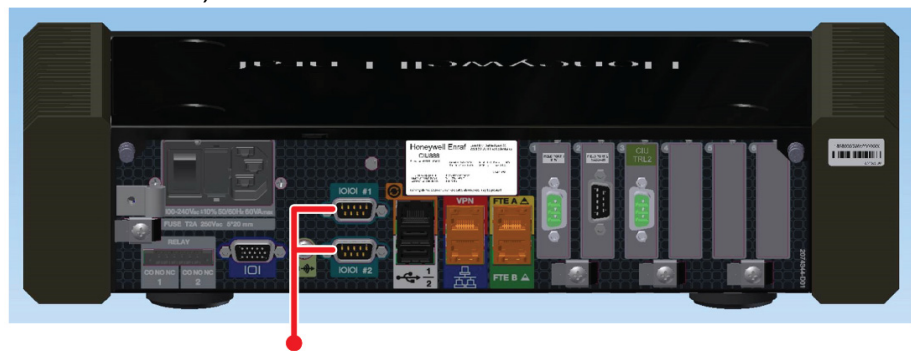

FIGURE 4-7
- PC/laptop running the Modbus Host (e.g. Entis Pro) via one of the configured serial host ports using RS-232/RS-485 cable (see FIGURE 4-7)